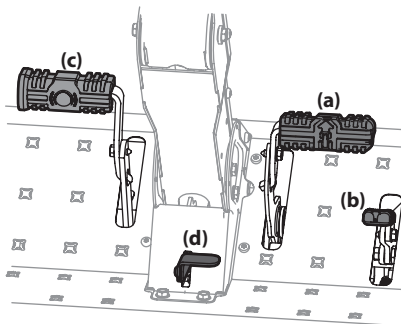

Figure 3-1
- To travel FORWARD, slowly press the forward drive pedal (a) forward until the desired speed is achieved. See Figure 3-1.
- To travel in reverse, check that the area behind is clear then slowly push down on the reverse drive pedal (b) with the ball of your foot (NOT your heel) until the desired speed is achieved. See Figure 3-1.